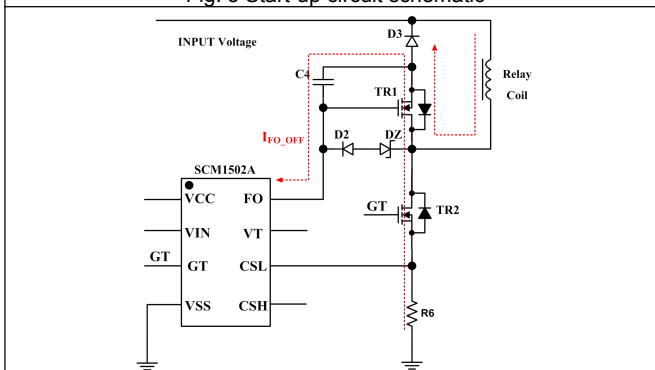

Fig. 7 Circuit schematic diagram of turn-off stage
(3) Figure 7, In the turn-off stage, see the circuit schematic of the shutdown phase. The MOS transistor TR2 is not turned on, and the FO will draw the current of the capacitor C4. The path of the current sinking I_{FO_OFF} is as follows: the current of the C4 is drawn through the body diode of the MOS transistor TR2 and the MOS transistor TR1. At this time, the MOS transistor TR1 operates in the sub-threshold state, and the drain terminal voltage of the MOS transistor TR1 is relatively large, and the voltage value is $V_{TH}+V_{DZ}$, wherein V_{TH} is the conduction threshold voltage of TR1, and V_{DZ} is the voltage regulation value of the Zener diode DZ. At this time, the demagnetization voltage of the relay coil becomes large, the coil current is attenuated quickly, and finally the effect of fast turn-off is achieved.